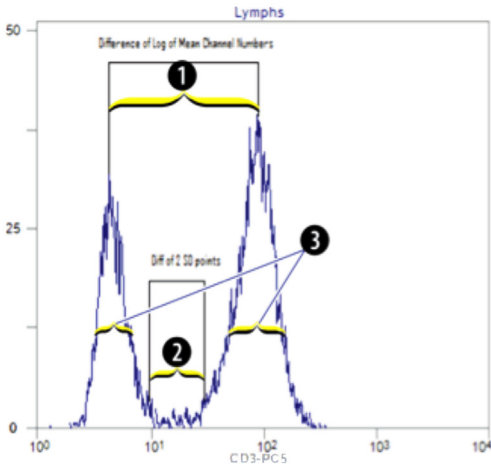

Figure 1 – Separation Quotient = 4.7
Note: Figure 1 is representative of excellent separation because it displays both good sensitivity and good resolution. The logarithmic difference of the mean channel numbers (1) is a difference greater than two standard deviation points (2), indicating good sensitivity. In addition, the two cell populations have little variance in the values assigned to each cell population's distinct quantity of fluorescence (3), indicating good resolution.
3 to 10	Excellent separation such that >99% of the data points in the populations are separated from each other. See Figure 1.